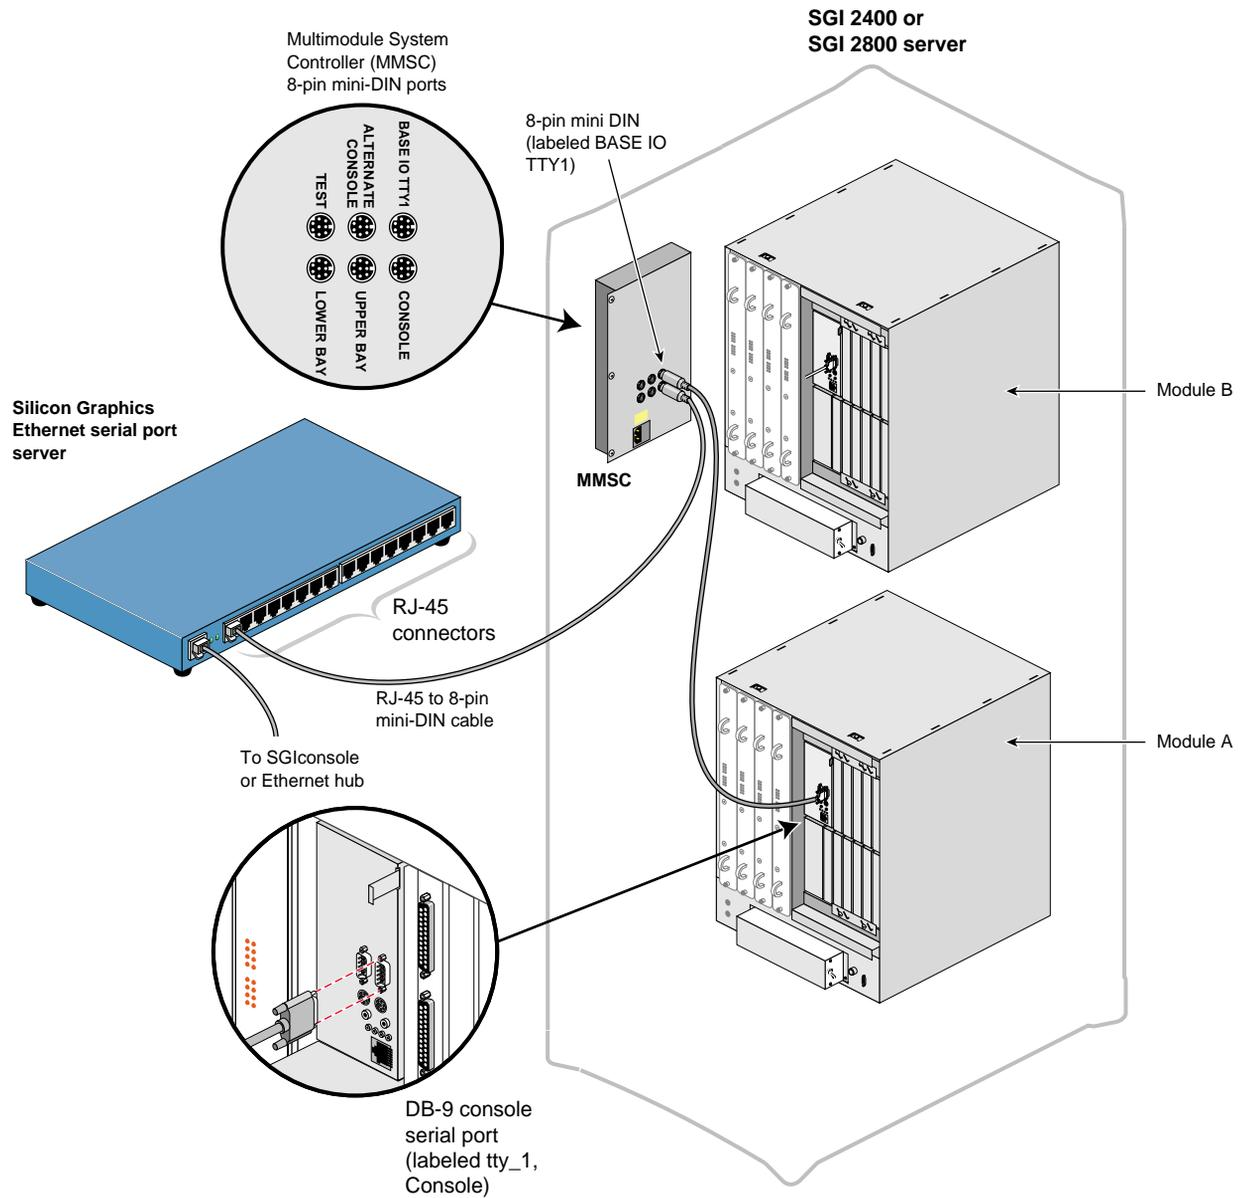

Figure 5-21 Connecting the MMSC Base I/O TTY1 to the Module A tty_1, Console Connector
7. Connect the 8-pin mini-DIN connector end of one of the 8-pin mini-DIN to DB-9 cables to the 8-pin connector on the MMSC labeled "BASE IO TTY1." Connect the DB-9 connector end of this same cable to the serial port connector labeled "tty_1, Console" of the SGI 2400 or SGI 2800 server module A located in the lower bay of the rack. See Figure 5-21.